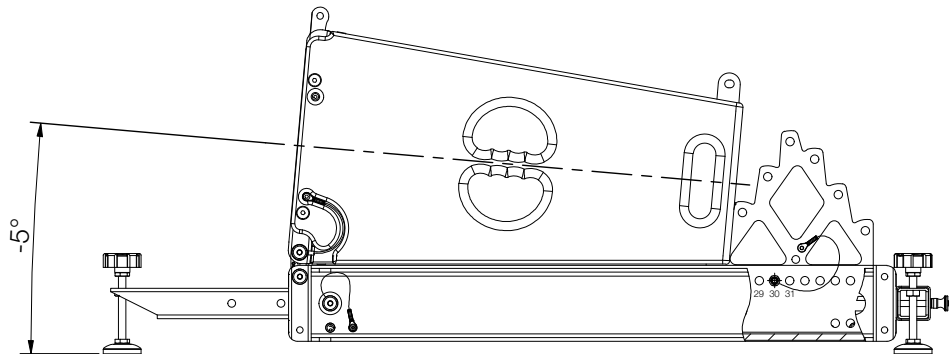

Figure 4.7.8 - Side view VERA36 loudspeaker -5° uptilt
15. Select the level (number of degrees) that matches your system application. See Figures 4.7.8 to 4.7.14.